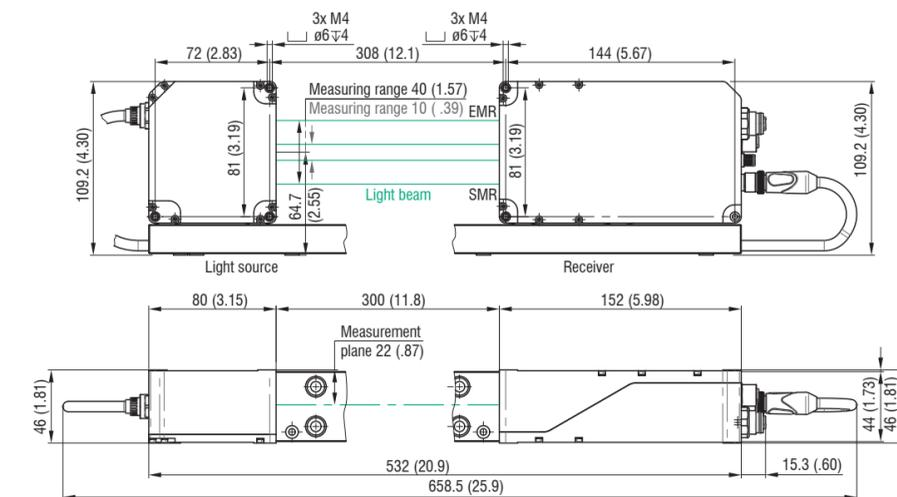

Fig. 1 Light source and receiver ODC2700-10, ODC2700-40, dimensions in mm (inches)
- Mount the sensor (light source and receiver on the mounting rail), see Fig. 1 up to 4.